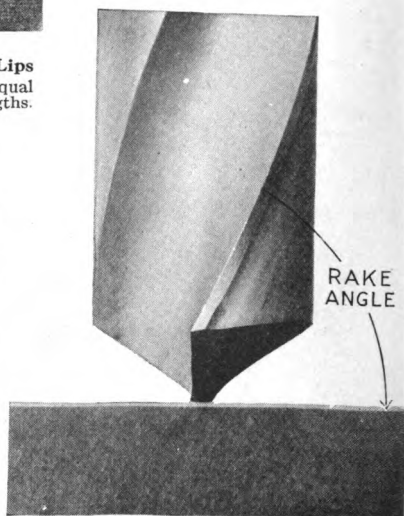

Fig. 19 — The Rake Angle
- 41 *Rake Angle* — Another part of the drill which performs an important function is the “Rake Angle.” This is the *angle of the flute in relation to the work* — as in Fig. 19.
This shows rake angle (“r” in the illustration) on a carpenter’s plane and on a lathe tool. The similarity with the rake angle of the drill in Fig. 19 is clearly seen.